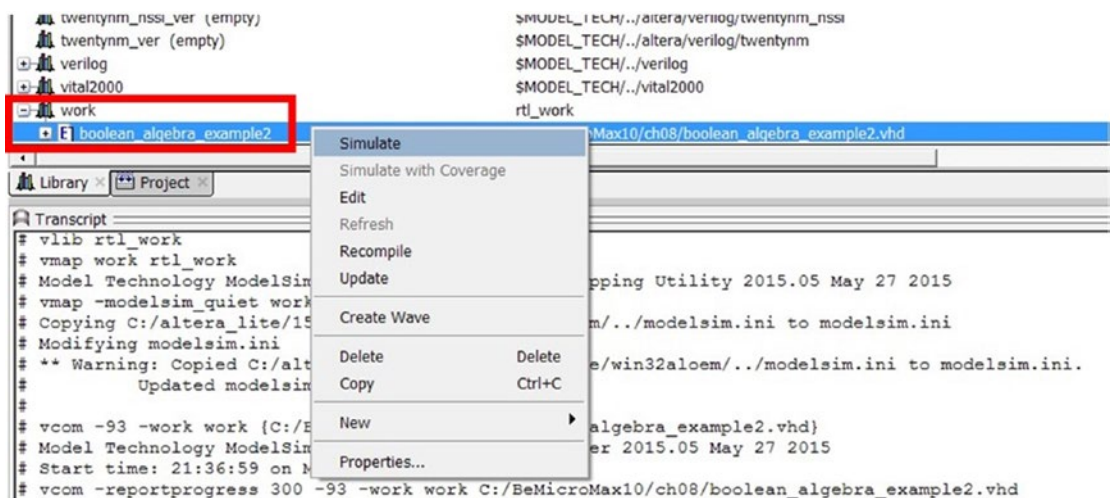
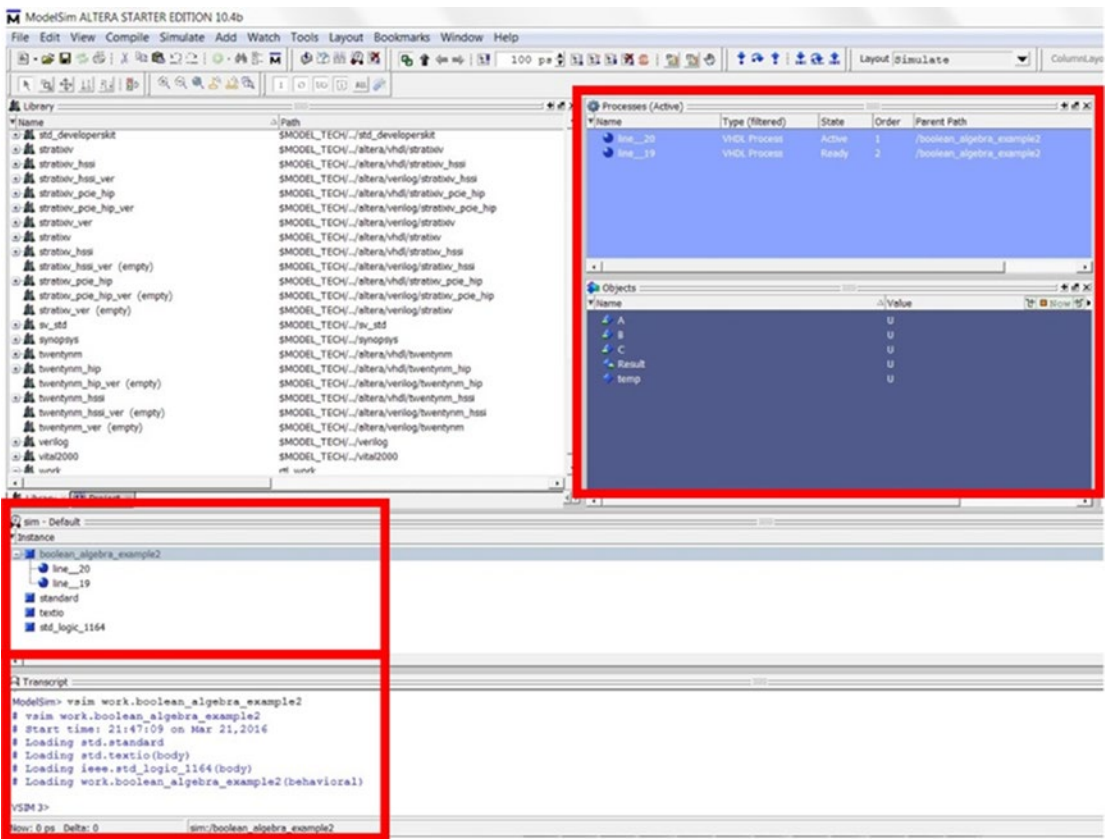

Figure 8-13. Start simulation
Figure 8-14. New section started in ModelSim when simulation was started
9. In the Library Window, click the cross next to the work library and right-click on `boolean_algebra_example2`. Click **Simulate**. Or type `vsim work.boolean_algebra_example2` in the transcript box shown in Figure 8-13. ModelSim should show something like Figure 8-14. It will have Sim, Transcript, Processes, and Objects windows.